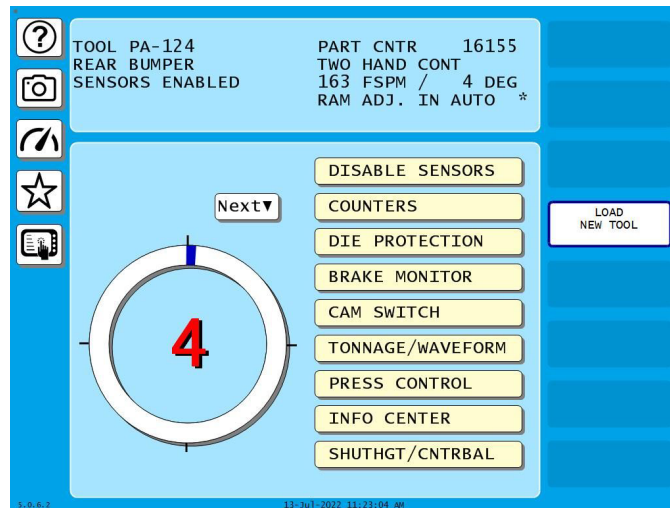
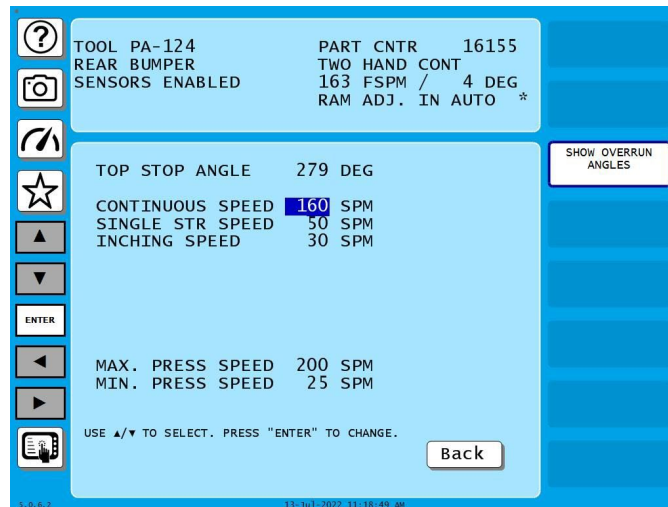

Figure 5-1. Main Run Menu
Figure 5-6. Press Control Run Screen Displaying Motor Speed
1. On the Main Run Menu, Figure 5-1, press PRESS CONTROL, as shown in Figure 5-1 and press ENTER.
10. Check the value displayed in the FSPM field (see Figure 5-6, below). This field, which displays on the right side of the Run screen header when the clutch is not engaged, shows the speed of the press as measured at the motor drive, which is fed to the Option 2 board via the tachometer generator output (see *Wiring Analog Speed Control Inputs and Outputs*, page 33).
Note the FSPM value of 163 in the Run screen, Figure 5-6, where the CONTINUOUS SPEED item has been set to 160 SPM.
1. On the Main Run Menu (see Figure 5-1, page 66), press PRESS CONTROL. The Press Control Run screen, shown in Figure 5-6 displays. Descriptions of the settings you can adjust on this screen are shown in Table 5-1.